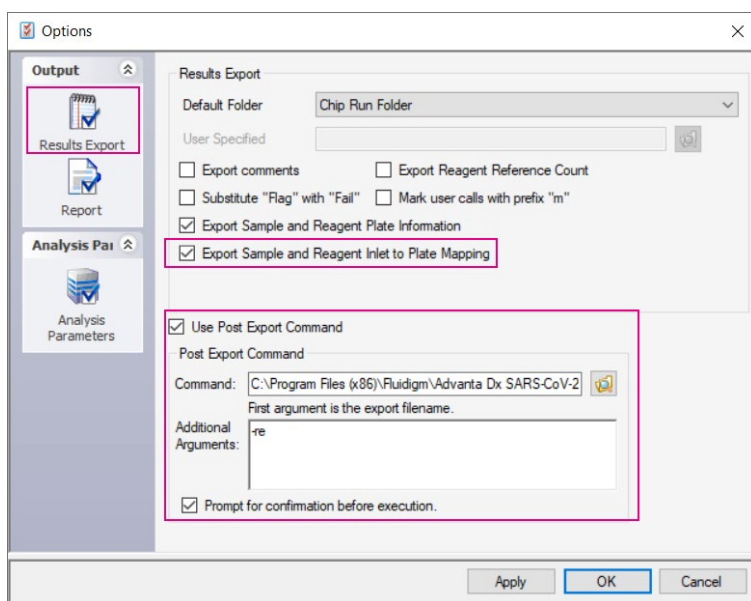

Figure 2. Results Export options
- b Click the **Results Export in the Output** section (Figure 2 on page 10).